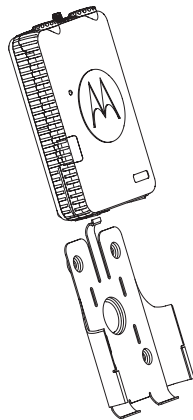

Figure 14b. Installing the Wall Mount Holster
2. Once the wall mount is firmly secured to a surface, slide the repeater device from top to bottom of the holster ("Figure 14b. Installing the Wall Mount Holster" on page 26) until the repeater clicks in place into the wall mount rails.